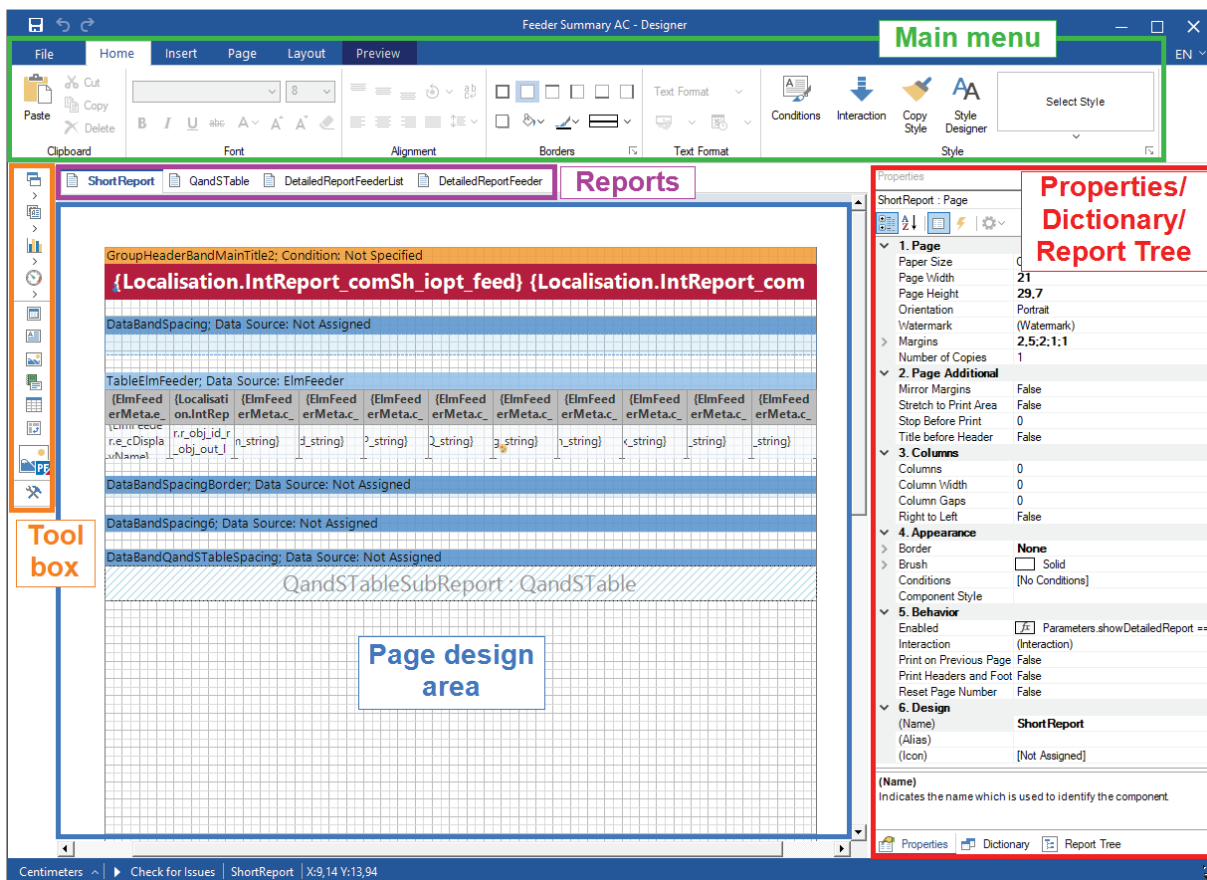

Figure 3.1: Overview of the report designer
- Figure 3.1 shows an overview of the report designer.
- In general, reports consist of various data bands with different functionalities. On the very top of the toolbox on the left side of the designer (see Figure 3.1), data bands can be added. Holding the cursor over a data band shows a more detailed explanation.
**Hint:** When a data band is selected, e.g. the data band with the company name (here in dark red), the style can be changed on the very right side of the *Main Menu* (see Figure 3.1). Different DigSILENT styles are available and can be selected. For a user-defined style, select the style “No”. This unlocks further options to make changes (font, background colour etc.) in the *Main Menu*.